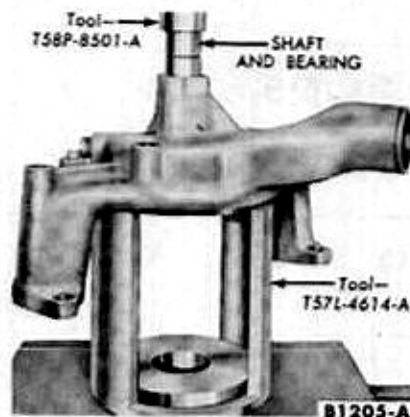

FIG. 7—Shaft Installation
4. Coat the bearing outer diameter lightly with grease, and press the shaft and bearing into the pump housing (Fig. 7).